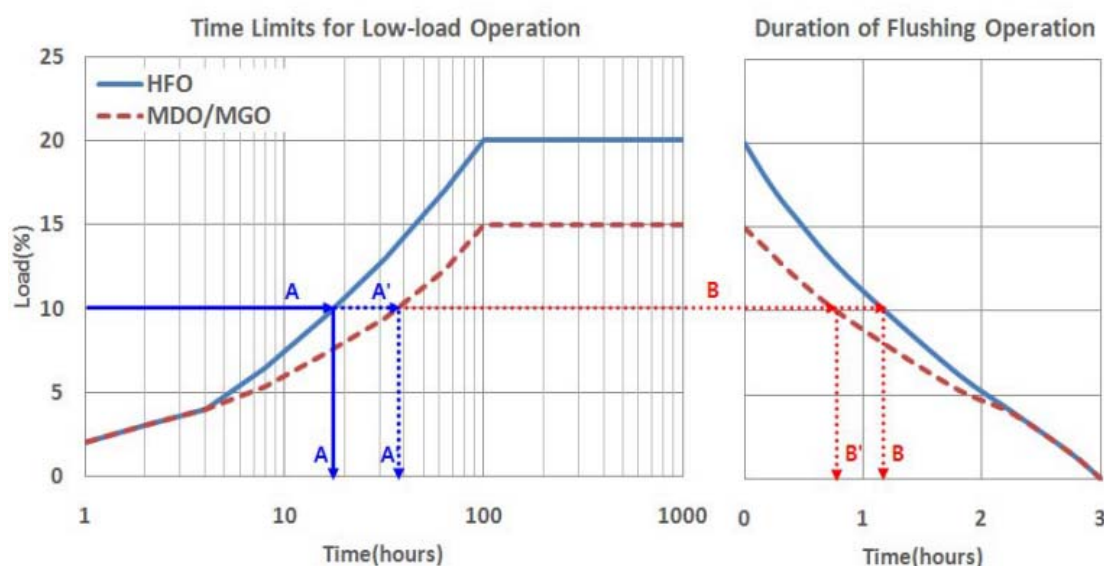

Figure 5.1 Time limits for low load operation
- ✓ Below 15 % load operation : load up over 70 % load at every limited time at corresponding load in Figure 5.1.
- ✓ Below 20 % load operation : load up over 70 % load at every limited time at corresponding load in Figure 5.1.
Duration of flushing operation (See 'Figure 5.1')